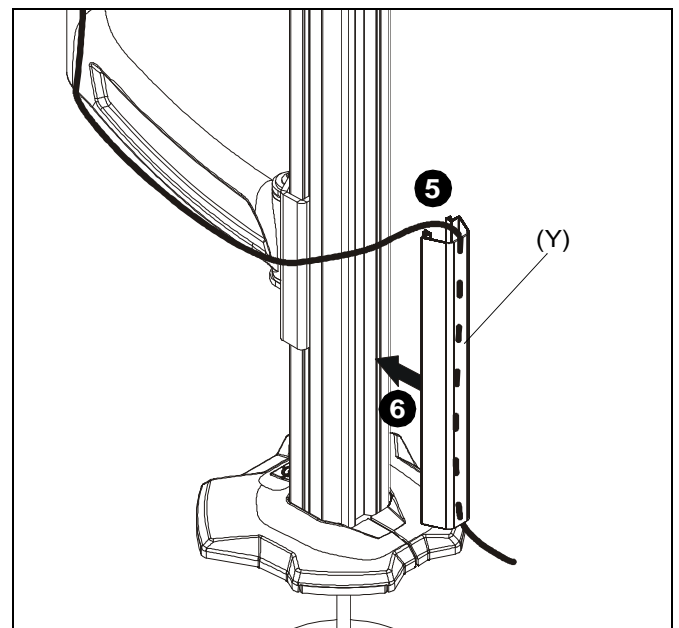

Figure 20
5. Route cables through cable management cover (Y). (See Figure 20)
6. Attach cable management cover (Y) to back of column. (See Figure 20)